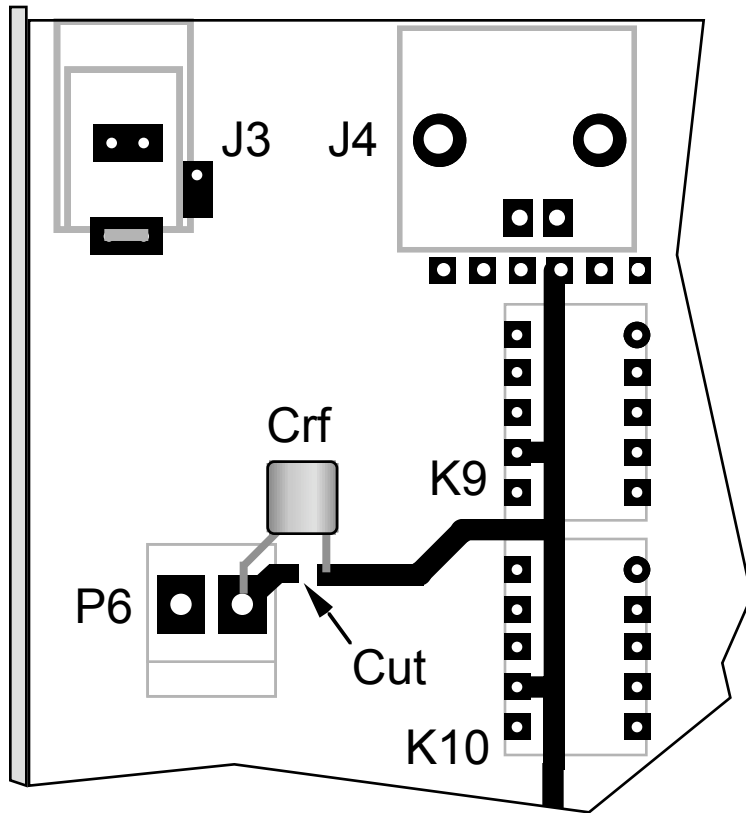

Figure 38
**If your K2 serial number is 2999 or lower:** Install the supplied DC blocking cap (**RF-Crf**, .047  $\mu$ F) on the bottom of the RF board at the location shown in Figure 38 (page 43). The indicated trace must be fully cut; verify that it is open using your DMM.